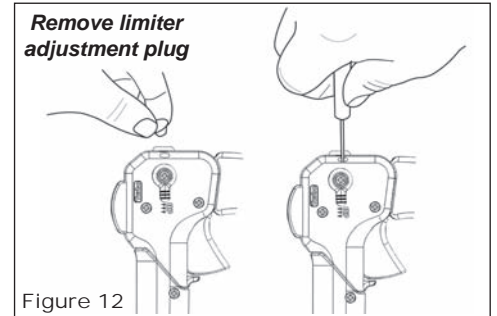

Figure 12
1. Remove the plug located at the top of the throttle assembly. See Figure 12.
2. Move the throttle limiter lever to the “dB” setting. See Figure 12.